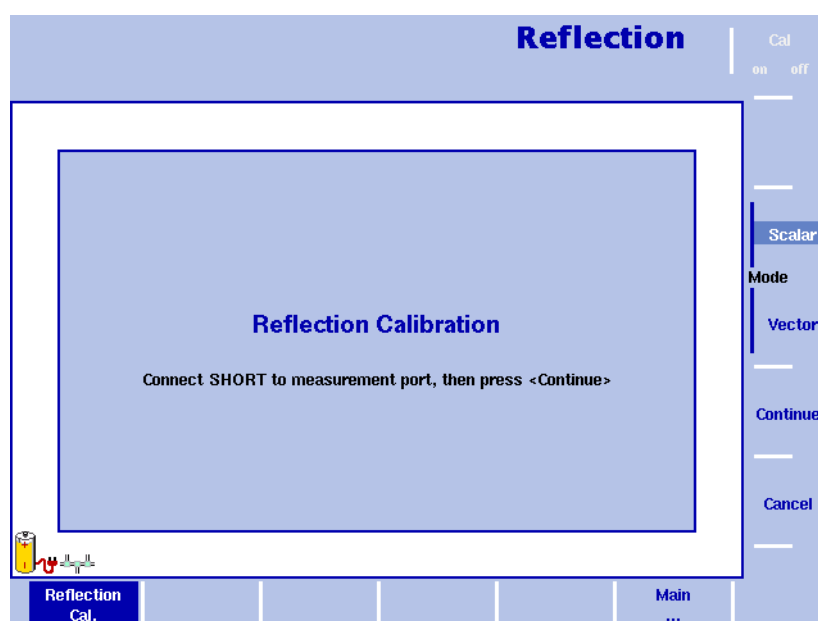

Figure 45 Reflection Calibration menu
- 3 In this menu you can select the mode to be used for your measurement by pressing the **Scalar** or **Vector** softkey. The scalar measurement measures the level of the reflected signal. The vector measurement is even more precise and also measures the phase of the reflected signal. It increases measurement accuracy as well as the return loss measurement range. The 9102 will guide you through the calibration process by onscreen messages as shown in Figure 45. When prompted as shown connect the calibration set to the test port extension cable and press **Continue**. You can abort the calibration process by pressing the **Cancel !** softkey.